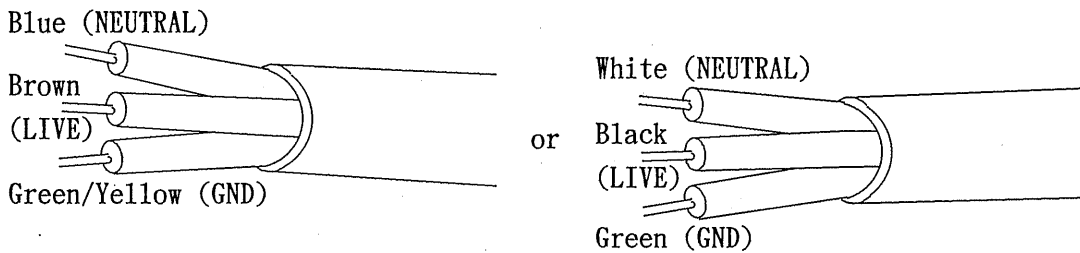

Fig. 1
- Power Cable: to 3-core cable (See Fig. 1 for the colors.)
To connect the AC plug to the AC power cord, connect the respective pins of the AC plug to the respective core-wires (LIVE, NEUTRAL, and GND) of the AC power cord by referring to the color codes shown in Fig. 1.